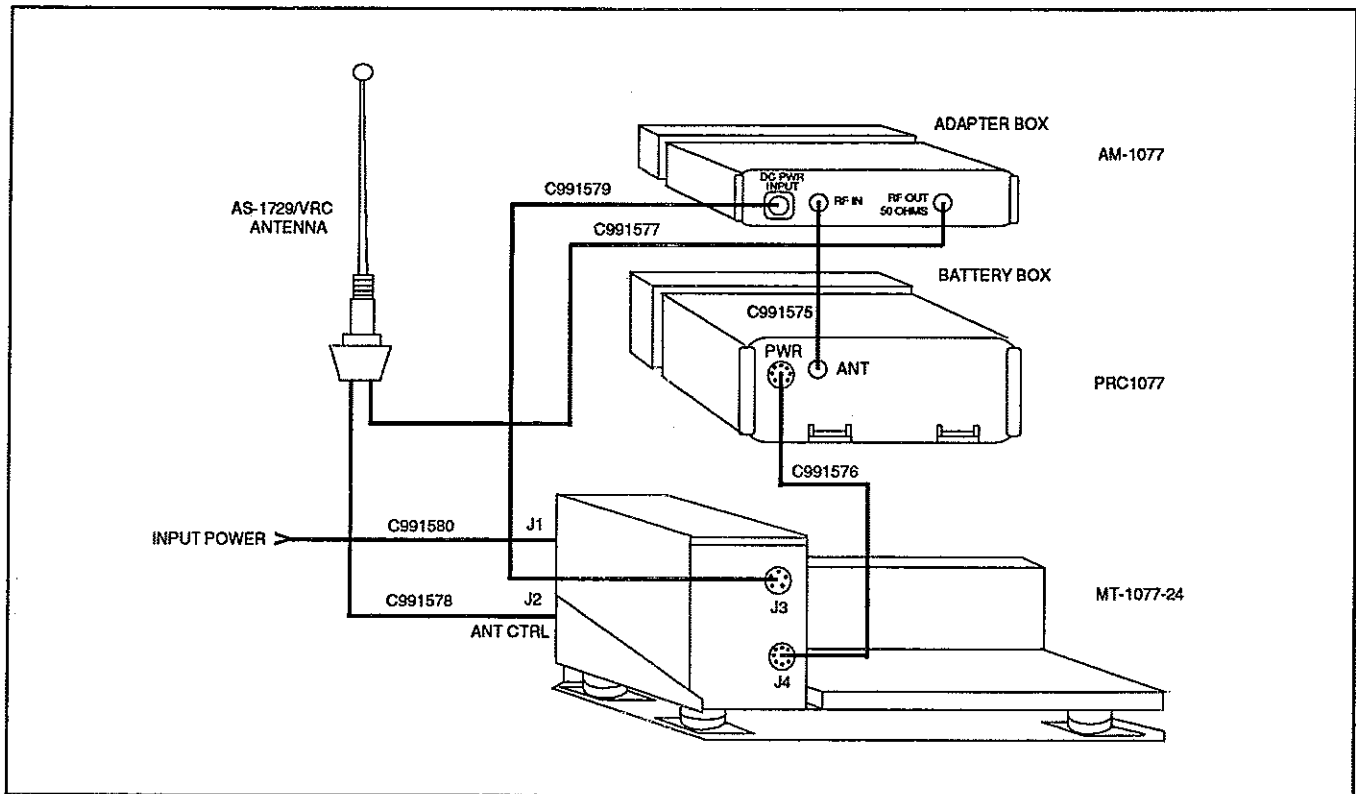

FIGURE B-9.
a. The PRC1077 can be used in a mobile configuration with the AM-1077 power amplifier as shown in Figure B-9.
4. Hook up the correct cables as shown in Figure B-9.